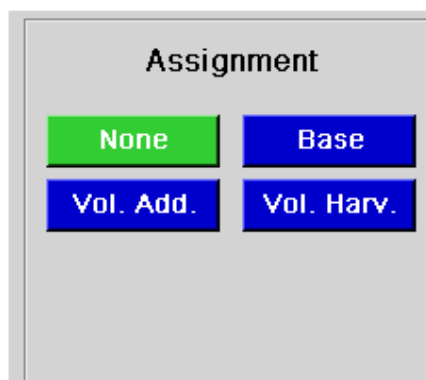

Fig. 41: Pump Assignment Pane
2. Select the pump you wish to harvest contents from your vessel (after aseptically setting up your harvest system), and press that pump's Assignment button to open the PUMP ASSIGNMENT pane (see Fig. 41 on p. 54).